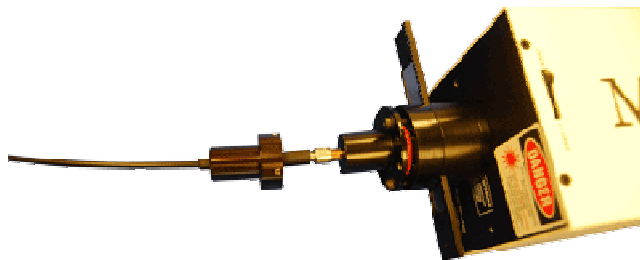

Figure 3-7: Installing Fiber Lock
c) Install Fiber Lock over Fiber Connector (Figure 3-7).